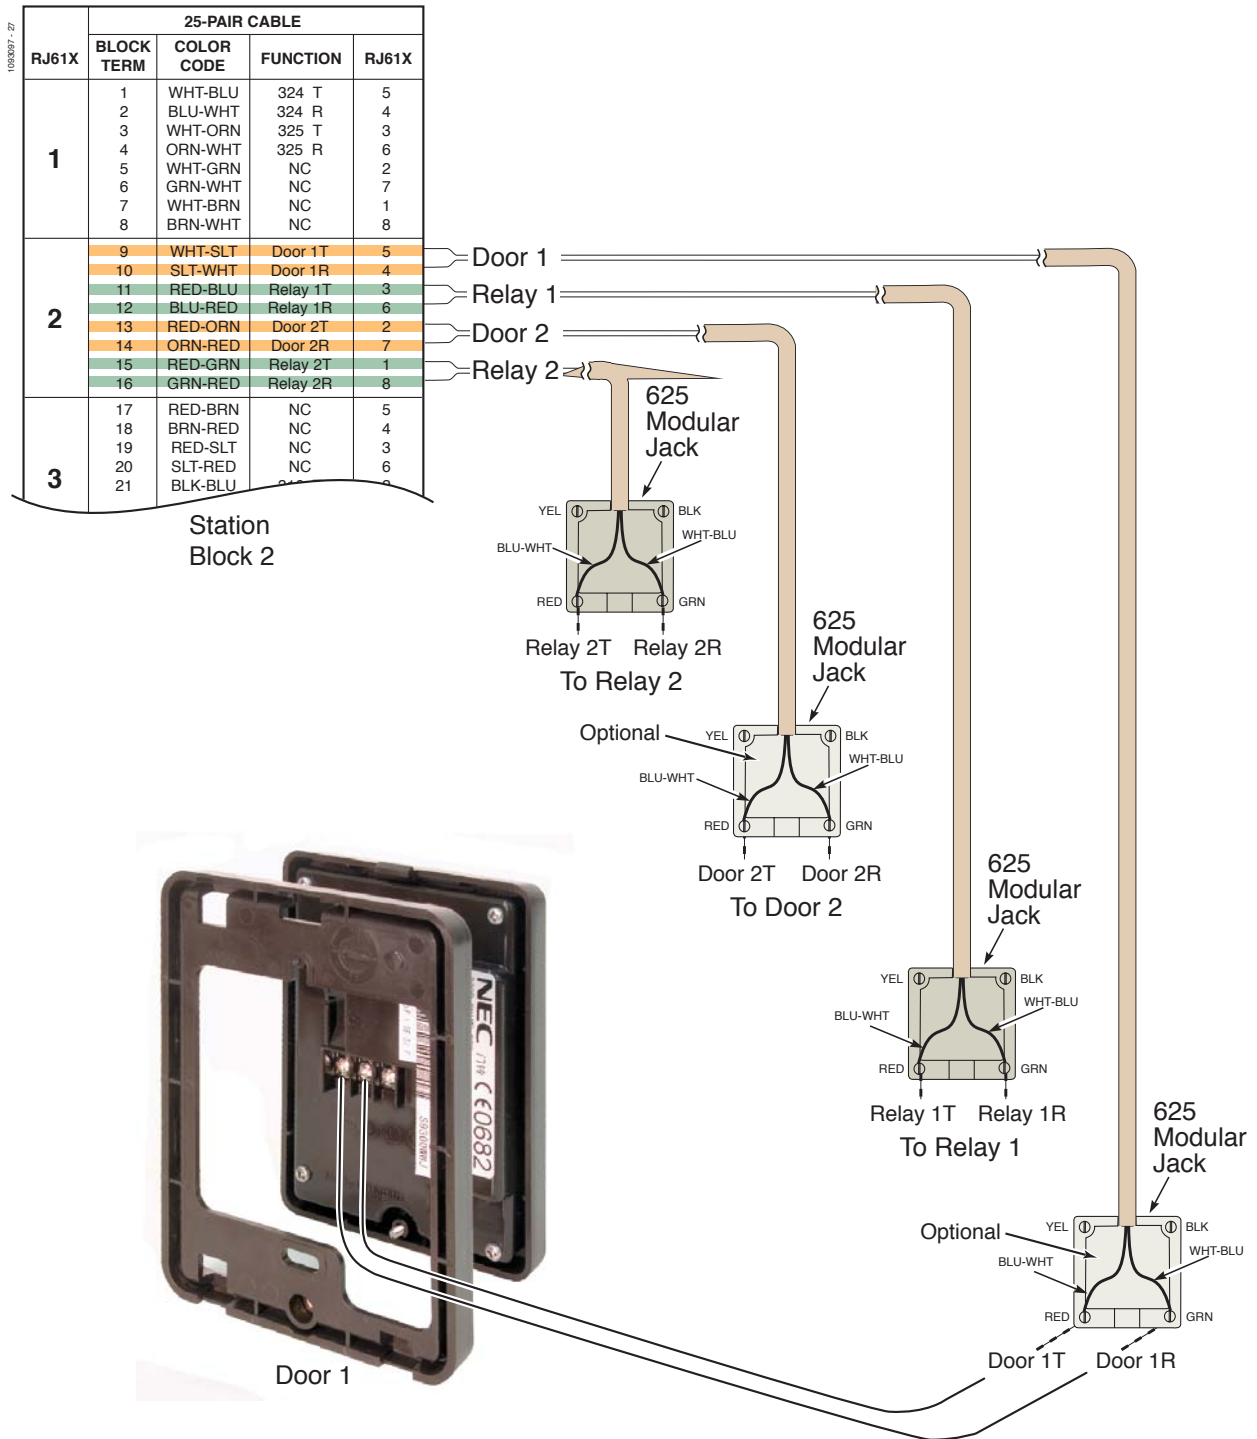

Figure 30: Connecting to the Built-In Analog Door Box Ports
1. Using *Figure 30: Connecting to the Built-In Analog Door Box Ports* (page 50) as a guide, on Station Block 2 punch down the Installation Cable in standard color code-order.
7. Connect to the door boxes and relays as shown in *Figure 30: Connecting to the Built-In Analog Door Box Ports* (page 50).